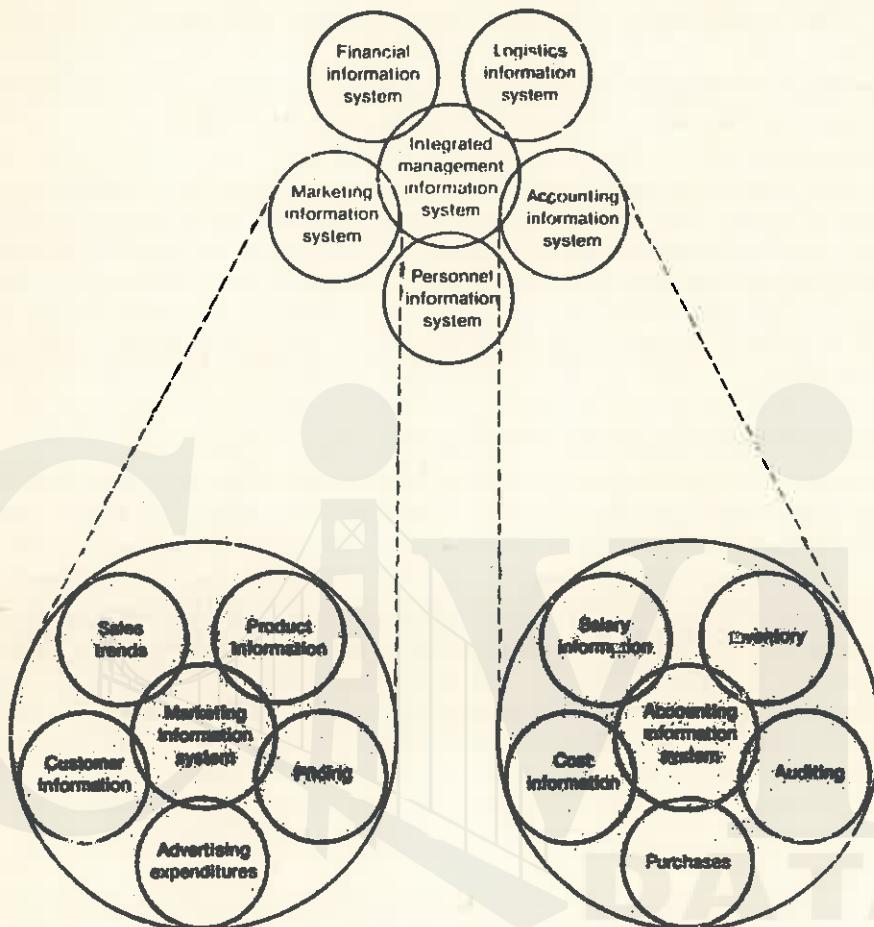

Fig. 39.6 Integrated Management Information System
- *The value of such an approach is apparent:* Information in one area can be made available to other areas of the organisation. If stored in a central computer, it can be utilized by all departments. Thus, sales data would not have to be kept by accounting, marketing, and production but would be available in one central data bank. This would likely increase both the accuracy and certainly the timeliness of the data. Figure 39.6 portrays the integrated information system concept illustrating two subsystems in more detail.